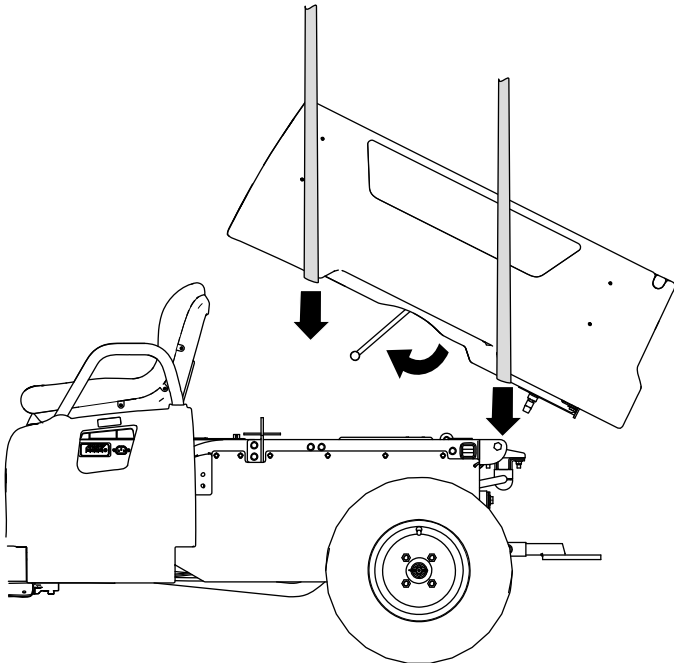

Figure 4
3. Using lifting equipment at the front and back of the cargo bed, raise the cargo bed and align it over the frame of the machine with the pivot-bracket assembly rearward (Figure 4).